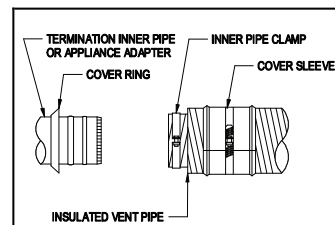

Figure 7
1. Pull outer vent pipe back 1"-2" from inner vent pipe end and remove insulation (Figure 7).
2. Slide Cover Sleeve onto end of vent pipe a few inches back from end of outer vent pipe (Figure 7).
3. Slide Cover Ring over stop bead on termination inner pipe or appliance adapter (Figure 7).
4. Assemble inner pipe clamp halves using the supplied ?" bolts and square nuts, and position inner pipe clamp ?" from end of inner pipe (Figure 7).